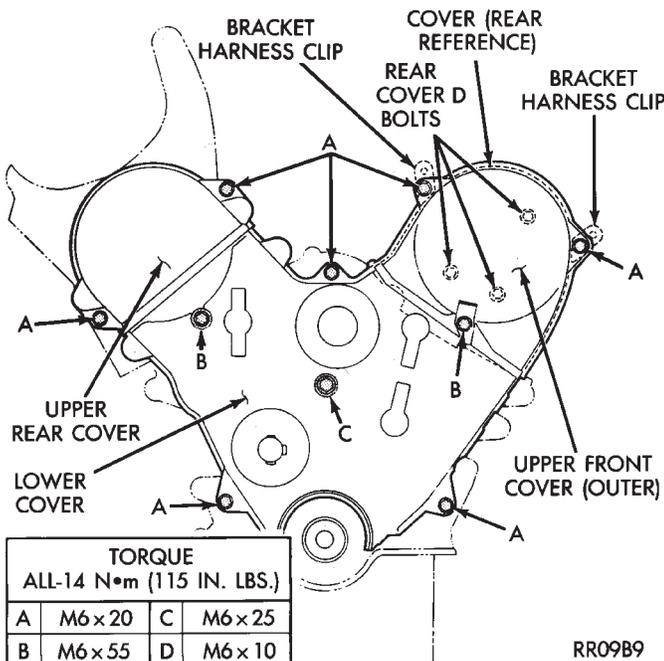
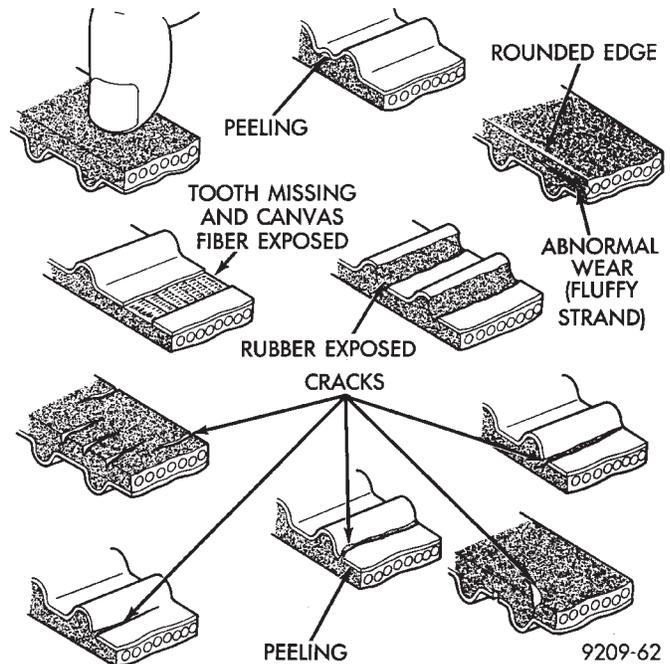

Fig. 11 Timing Belt Covers
Fig. 12 Timing Belt Inspection
(11) Remove timing belt covers (Fig. 11).
(1) Remove the upper front outer timing belt cover by loosening the three attaching bolts. (Fig. 11).
(2) Inspect both sides of the timing belt drive & back. Replace belt if any of the following conditions exist.
- Abnormal wear of belt sides. The sides are normal if they are sharp as if cut by a knife (Fig. 12).
(3) If none of the above conditions are seen on the belt, the belt cover can be reinstalled.